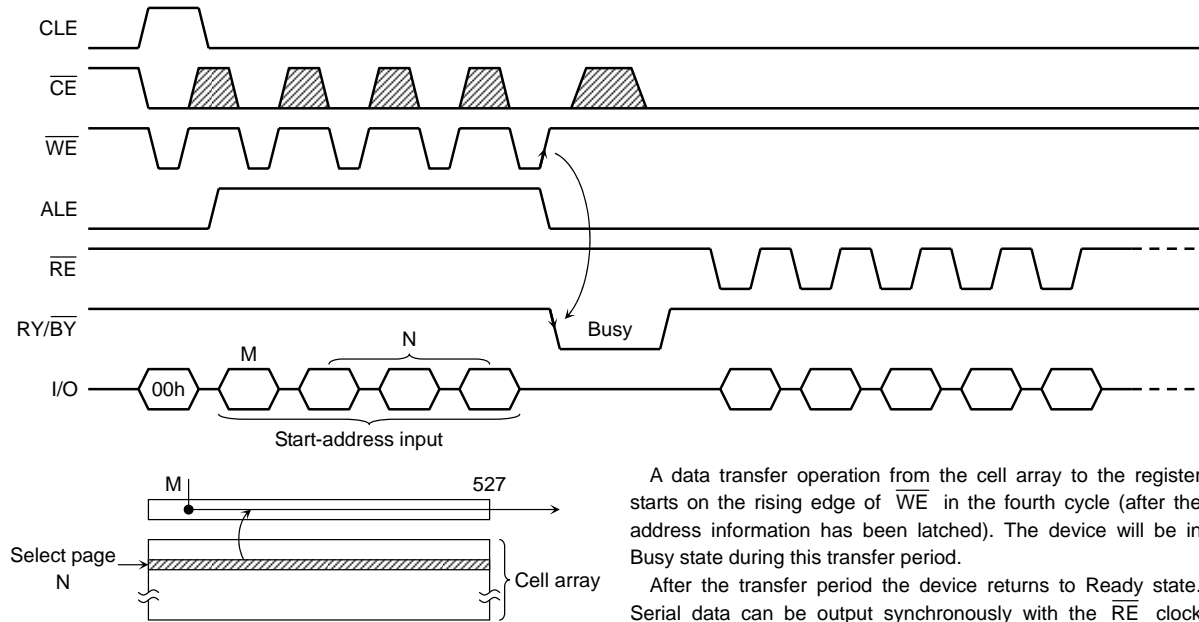

Figure 2. Read mode (1) operation
Read mode (1) is set when a 00h command is issued to the Command register. Refer to Figure 2 below for timing details and the block diagram.